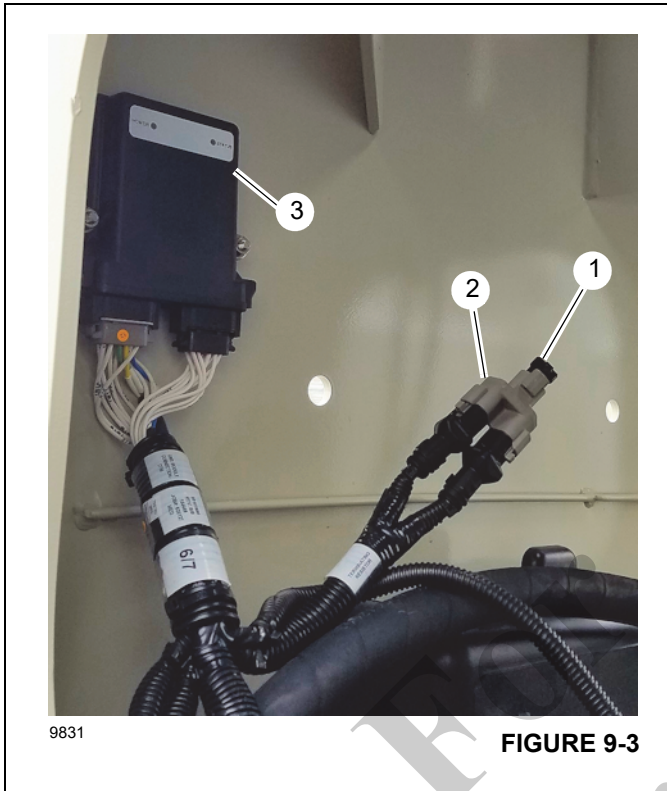

FIGURE 9-3
1. Locate the terminating resistor (1, Figure 9-3) and Deutsch splitter (2) near the OMS throttle module (3) on the driver's side of the crane frame.